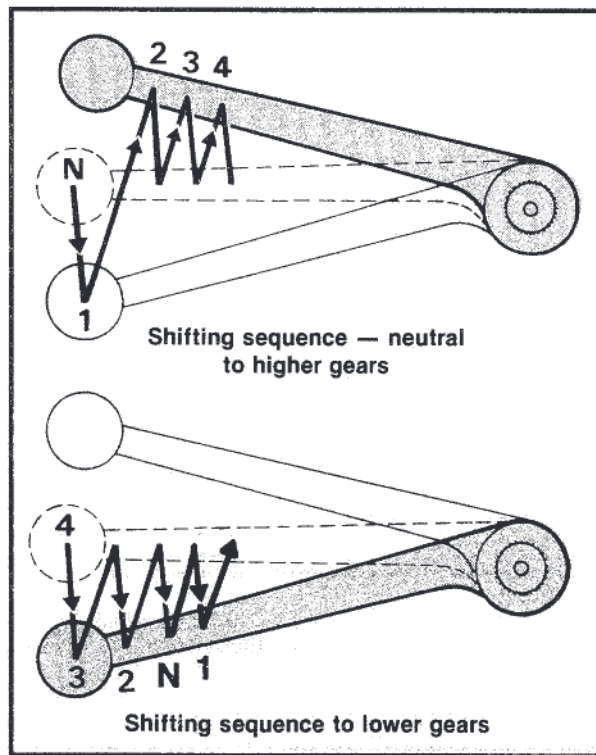

Figure 26. Shifting sequence - 4-Speed
See Figure 2. To start moving with motorcycle upright and engine idling, pull the clutch lever (6) to fully disengage clutch. See Figure 26. Push shifter lever down firmly but gently to end of its travel to engage first gear. Then release the clutch lever slowly to engage the clutch and at the same time, open throttle gradually.